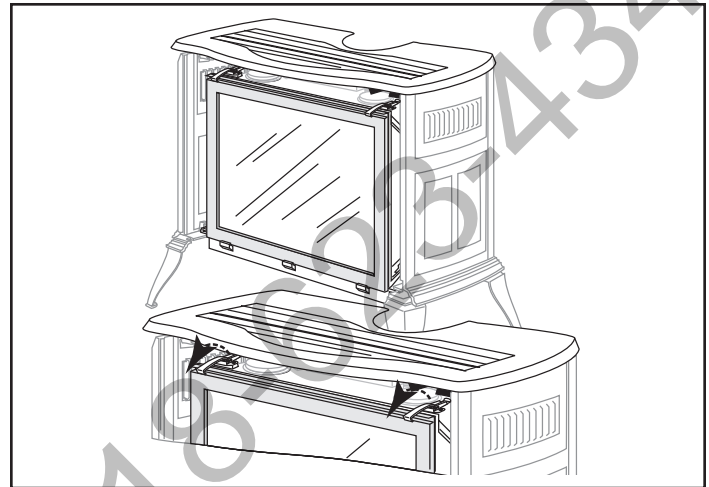

Figure 2 - Release the latches to remove the glass frame.
2. Undo the right and left latches at the top of the glass frame. (Figure 2)